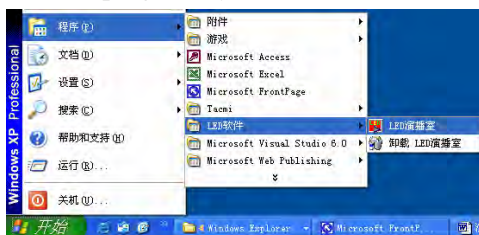

Figure 4-3
3. After “LED Studio” software has been successfully installed, there will be a “LED Software” program group in the 【Start】/【Program】 ,then move to the “LED Software” under this program group, click to start. As shown in figure 4-3 Also, there will be a “LED Studio” short-cup on your